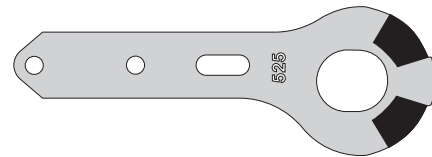

Fig. 3
- 2) Once the proper gage is identified, place the gage over the center part of the wear area (see Figures 3 & 4). Two different gages are needed, test the gages only in their appropriate direction.